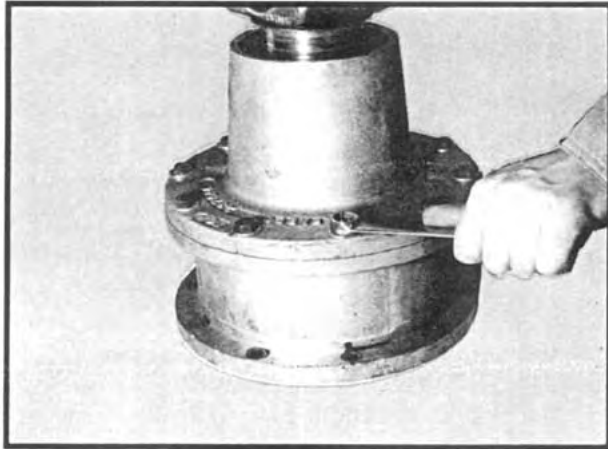

Fig 34
8. Remove the (10) cap screws and washers fastening the rear carrier to the outer differential housing. See figure 34. Separate the carrier from the housing. Discard the gasket.